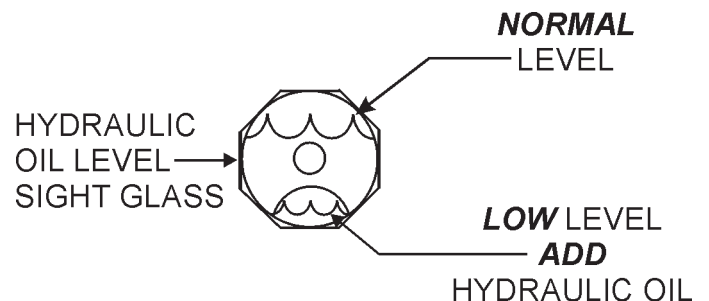

Figure 13. Hydraulic Oil Sightglass
2. Visually inspect the hydraulic oil sight glass (Figure 13) located on the right rear of the front drum. For normal operation the hydraulic oil level must be below the top and above the bottom of the sight glass. **DO NOT OVERFILL!**